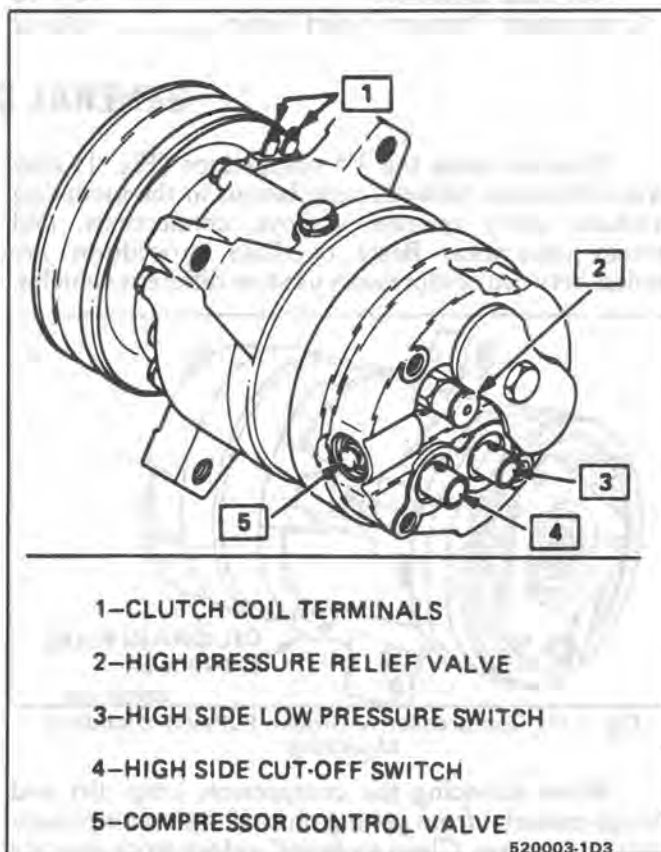

Fig. 3 V5 Compressor Rear Head Details
3. Connect charging station high and low pressure lines to corresponding fittings on test plate J-9625-A, using J-5420 gage adapters or hoses equipped with valve depressors. Suction port (low-side) of compressor has large internal opening. Discharge port (high-side) has smaller internal opening into compressor (Fig. 3).